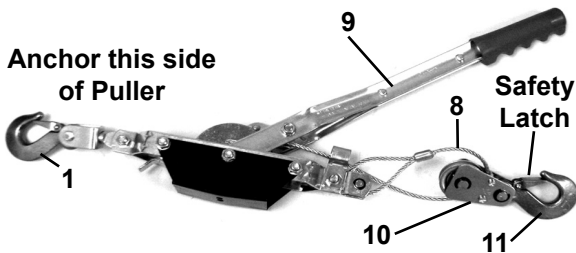

Figure 1
2. Connect the Load Hook (11) to the load. Make sure the load is rated within the capacity of the Puller. See Figure 1.
3. Position the Handle (9) to the Load Hook (11) side of the Puller as shown in Figure 1.
WARNING: Make sure that the load hook (11) closes completely when it is attached to the load. **IF IT DOES NOT CLOSE COMPLETELY DO NOT USE THE PULLER.** See Figure 1.